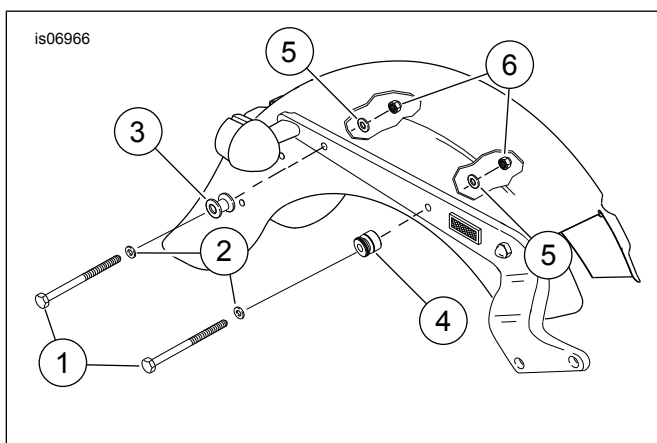

Figure 2. Service Parts: Softail Docking Hardware Kit
See Figure 2 and Table 1.
See Figure 2. The rear docking point (3) is wider than the front docking point (4).
1. **On Models Without Wide Tire Kit Installed**, place washers (2) on bolts (1). Insert bolts (1) through holes in saddlebag and saddlebag bracket.